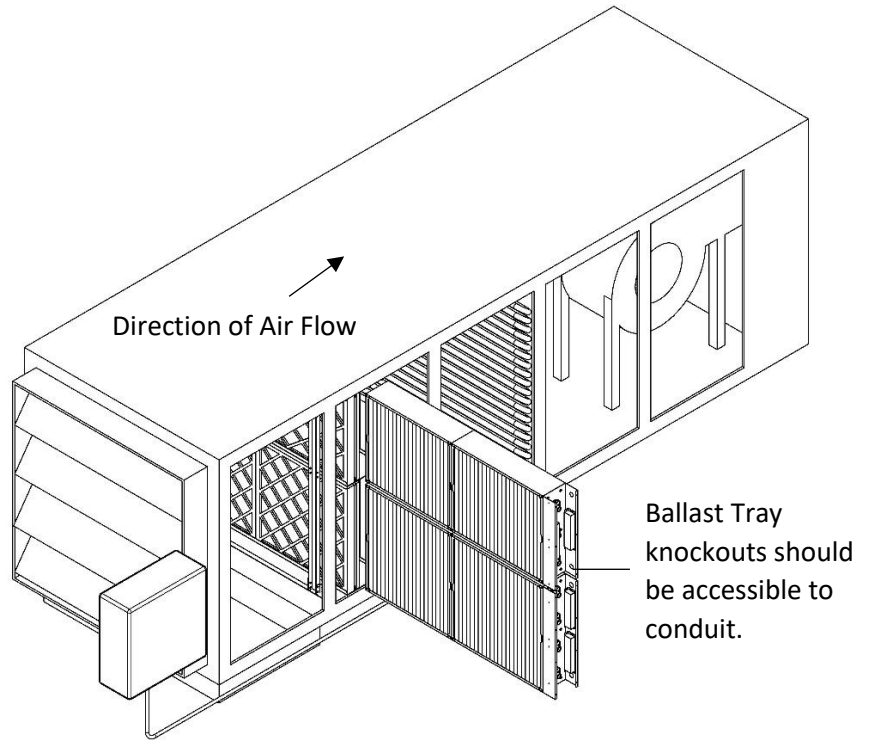

Figure 15
4.) Remove panel(s). Take note of the location of each catalyst panel for when they will be reinserted back into their original places. See Figure 15.
12.) Reinsert catalyst panel(s) into Free-Standing Rack in the same location they were removed from. Ensure that Ballast Tray knockouts are on the same side as the electrical conduit. See Figure 15. For side load applications, connect electrical Molex connectors on the ends of the panels. Use catalyst clips to link panels together.
10.) Reinsert catalyst panel(s) into Free-Standing Rack in the same location they were removed from. Ensure that Ballast Tray knockouts are on the same side as the electrical conduit. See Figure 15.
- 4.) Remove panel(s). Take note of the location of each catalyst panel for when they will be reinserted back into their original places. See Figure 15.
- 7.) Reinsert catalyst panel(s) into Free-Standing Rack in the same location they were removed from. Ensure that Ballast Tray knockouts are on the same side as the electrical conduit. See Figure 15. For side load applications, connect electrical Molex connectors on the ends of the panels. Use catalyst clips to link panels together.
7.) Reinsert catalyst panel(s) into Free-Standing Rack in the same location they were removed from. Ensure that Ballast Tray knockouts are on the same side as the electrical conduit. See Figure 15. For side load applications, connect electrical Molex connectors on the ends of the panels. Use catalyst clips to link panels together.